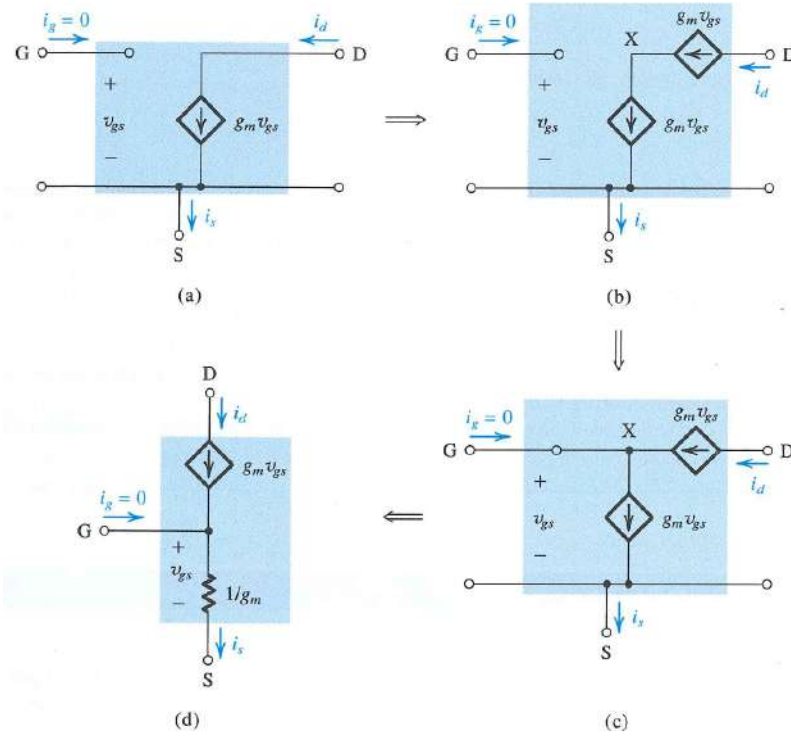

Figure 7: The morphing of the hybrid- π equivalent circuit model in (a) to the T equivalent circuit model in (d) (Courtesy of Sedra and Smith).
The hybrid- π equivalent-circuit model can be replaced by the T equivalent-circuit model. The morphing of a hybrid- π model to the T model is shown in Figure 7.
1. The current source in the hybrid- π model can be split into two without affecting the branch current. This is seen from the morphing of Figure 7(a) to Figure 7(b).
2. Note that the gate current is zero. The point X can be connected to the gate input, and yet the gate current is zero because of KCL at X. This is indicated in Figure 7(c).
3. But the second voltage-controlled current source is just the voltage and current relation of a resistor whose resistance is $1/g_m$. Hence, it can be replaced by a resistor as shown in Figure 7(d).